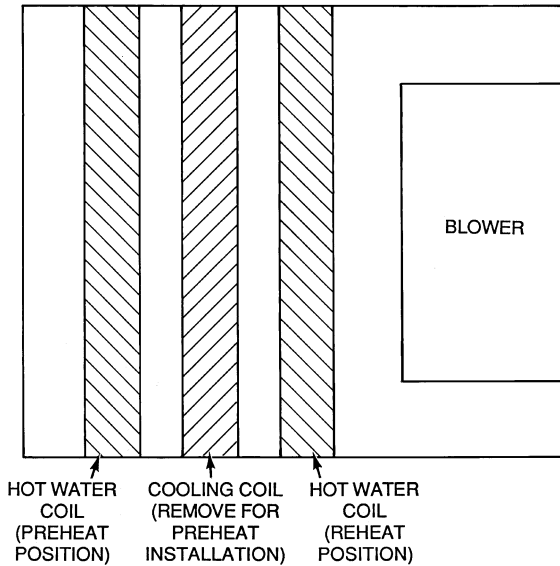

Fig. 10 — Hot Water Coil Installation
(P/N KFCHW6001HWC) — To install the hot water coil in preheat position, the cooling coil must be removed. See Fig. 10 for hot water coil positioning. Perform the following procedure:
3. Follow directions for installing the unit in reheat position, but place hot water coil in preheat position. See Fig. 10. Connections and knockouts must be field-supplied.